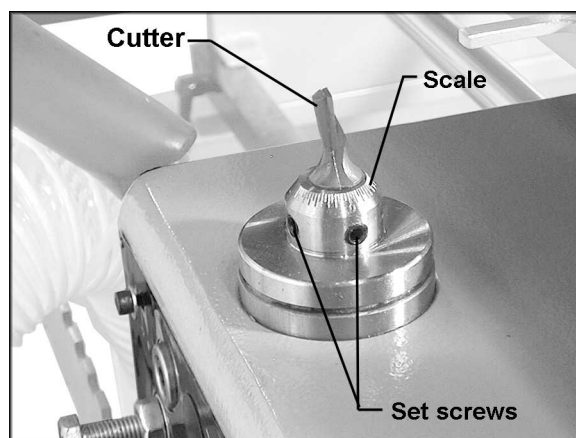

Figure 25
3. You will notice the cutter, shown in Figure 25, is slightly off center of the spindle. The spindle is eccentric and allows the cutter to be turned to a different position on the spindle.
4. Loosen both set screws on the spindle (Figure 25) by turning them counterclockwise with a 4mm hex wrench.
1. To replace the cutter, loosen both set screws (Figure 25) and carefully pull up on the cutter until it is free from the spindle.